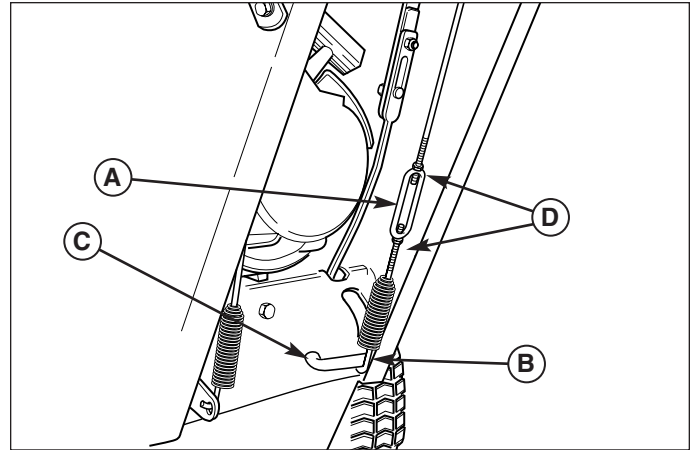

Figure 19. Auger Drive Linkage (Channel Handle Models)
1. With the drive lever released, the hook (B, Figure 19) should barely touch the lever (C) without raising it. There can be a maximum 1/32" clearance as shown.
2. To adjust, loosen the two nuts (D) and hold the lower rod to keep from rotating. Turn the turnbuckle (A) toward the right to lower the spring hook (B), or toward the left to raise the spring hook (B).
3. Tighten the two nuts (D) against the turnbuckle (A). Hold the turnbuckle (A) with pliers while tightening the nuts (D).